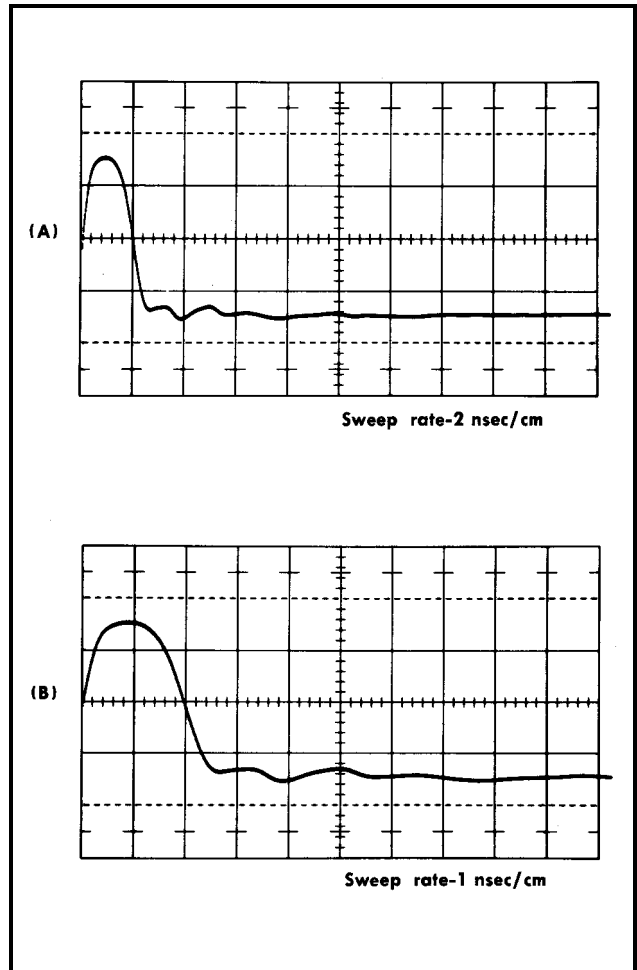

Fig. 2-3. Typical oscilloscope display illustrating time magnification of the display. Expansion takes place about the left edge of the screen.
26. With the TIME POSITION control, move the displayed pulse to the left edge of the screen so that the trace starts on the pulse rise (see Fig. 2-3).